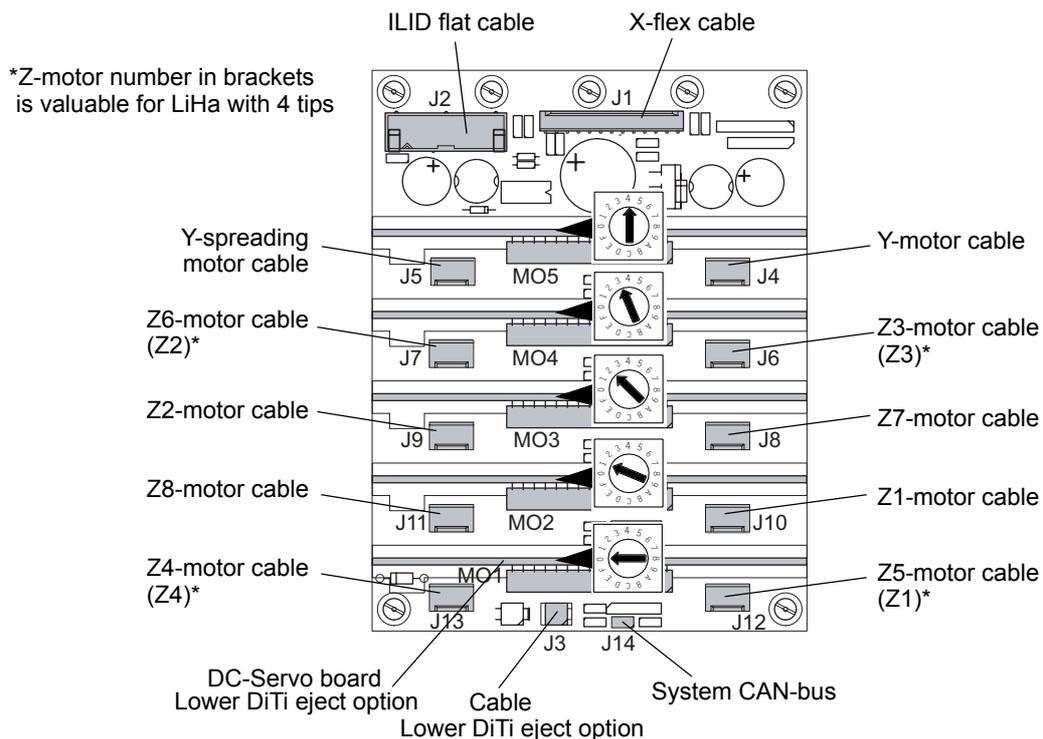

Figure 6-71 LiHa backplane cable connections
- For correct cable connections and address switch settings on the DC-Servo boards refer to Figure 6-71.
- For correct motor cable connection refer to Figure 6-71, 'LiHa backplane cable connections'.